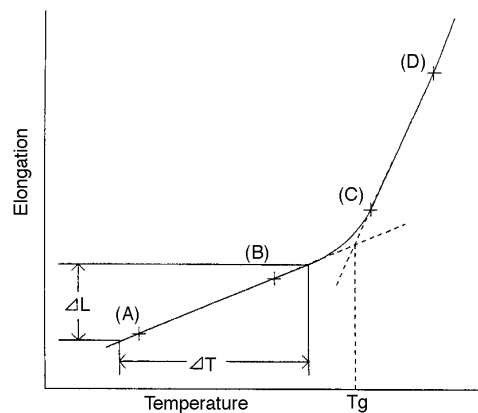

Figure 1
- 6.5 Initiate the test sequence and obtain a chart record of Elongation of the specimen versus Temperature (see Figure 1).
These values are taken from the chart as shown in Figure 1.
6.7.2.1 On the chart, draw a best-fit tangent line to the curve between Point (A) and (B) and a second tangent between Point (C) and (D) (see Figure 1).